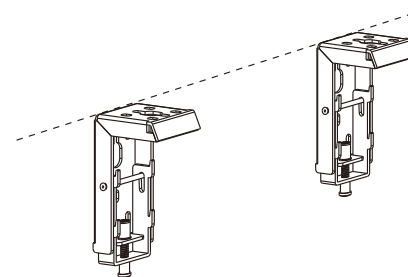

Figure 1
- Mount the brackets onto the wall, assuring they are at the horizontal level. (Tips: draw an erasable level line when mounting the brackets) (Figure 1) Here below are the details: